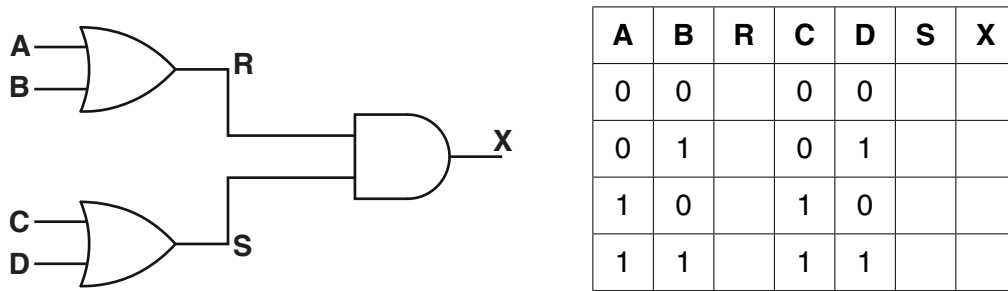

Fig. 20
- (b) (i) Fig. 20 shows an arrangement of logic gates and a truth table. Complete the truth table.